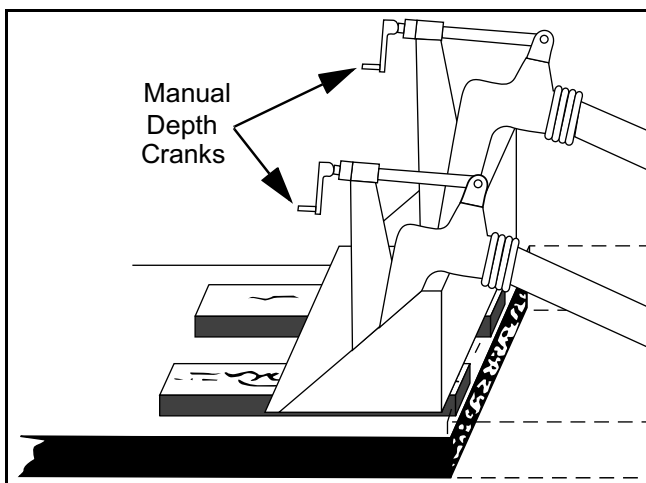

Figure 4 - 19 Nulling the Screed
- 2) Place the boards under the screed as illustrated. Attention should be placed on the grade conditions where the boards will be placed. If a board is placed on a high point or a depression, a false null setting will occur. Additional boards may be needed if you are paving at extended widths to provide support for the screed extensions. (Figure 4 - 19)